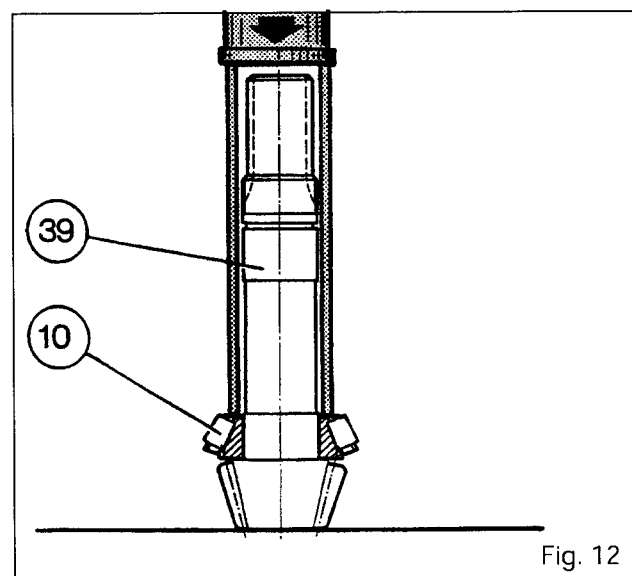

Fig. 12
41. Fit the cone fully home against the shoulder on the drive pinion, using a press and a suitable fixture (Fig. 12).
42. Place the shims (8), ensuring the previously calculated thickness, in the housing.
43. Fit the cup (9).
44. Shim the bearings (9), (10) and (5), (6).